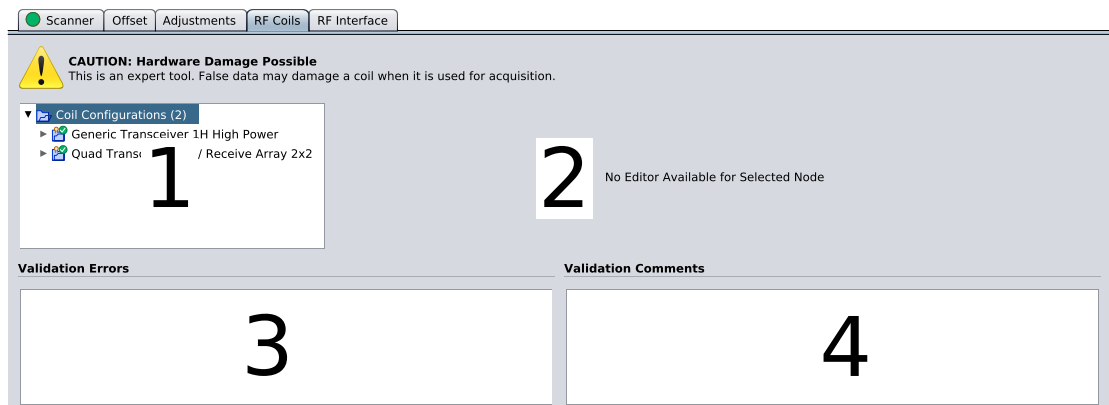

Figure 3.40: Initial View
Figure 3.40 [▶ 723] shows an example view of the Coil Editor. All stored coil configurations are shown inside the window to the left (1). Their properties can be observed and changed inside the window to the right (2), when selected. (3) and (4) are used to print comments and errors during validation and saving of configurations, see Chapter Validating and Saving Coil Configurations [▶ 736].